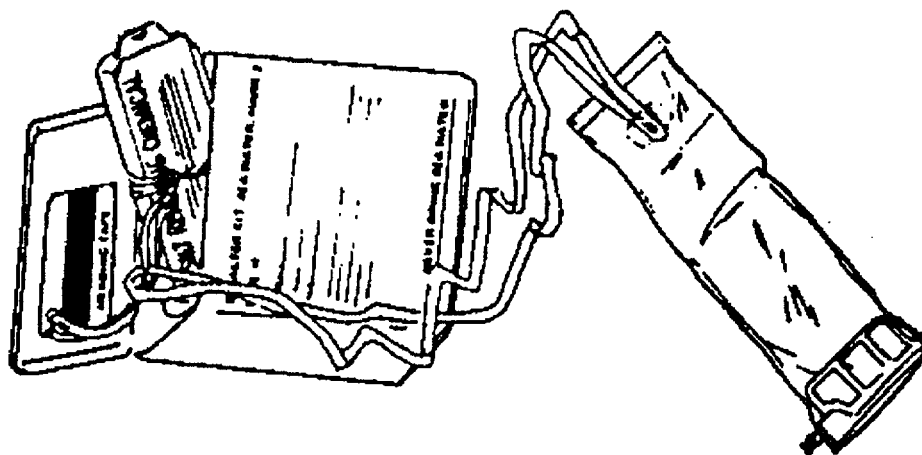

Figure 2-76. Desalter Kit
- bb.** Desalter Kit. The sea water desalter kit (See Figure 2-76) converts salt water to suitable drinking water. The kit consists of a metal or plastic outer container, eight chemical packets, a plastic processing bag, and a tape used to mend holes in the plastic bag.